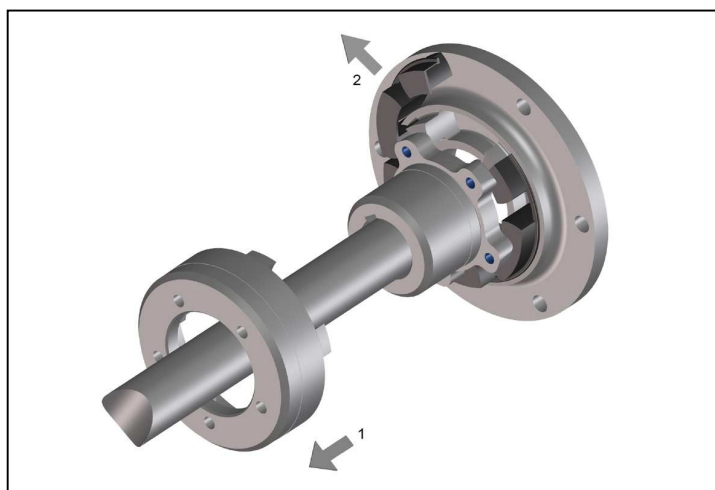

Fig. 10
- Remove the fastening screws at the claw ring and push it away from the buffer ring (Fig. 10, pos. 1).
- Cut through the buffer ring at one of the connecting webs (Fig. 10, pos. 2).